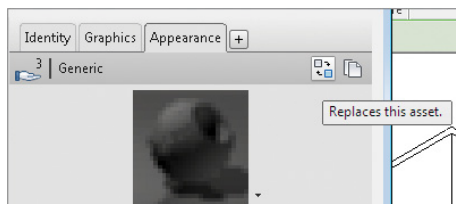

FIGURE 9.4 Editing the Appearance asset
- Click the Appearance tab, and click the Swap icon at the right end of the row (Figure 9.4) to open the Asset Browser.